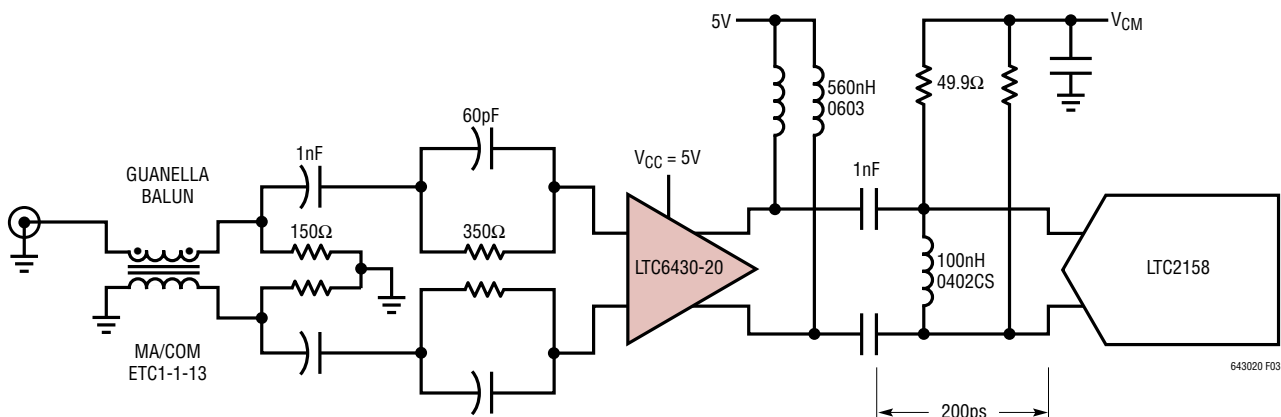

Figure 3. Wideband ADC Driver, LTC6430-20 Directly Driving the LTC2158 ADC
1.25GHz of input bandwidth in an undersampling application. Typically, a filter is used between the ADC driver amplifier and ADC input to minimize the noise contribution from the amplifier. However, with the typical SNR of higher sample rate ADCs, the LTC6430-20 can drive them without any intervening filter, and with very little penalty in SNR. This system approach has the added benefit of allowing over two octaves of usable frequency range. The LTC6430-20 driving the LTC2158, as shown in the circuit of Figure 3, the bandwidth is limited only by the 1.25GHz input BW of the ADC, still produces 57dB SNR, and offers IM performance that varies little from 240MHz to 1GHz. At the lower end of this frequency range, the IM contribution of the ADC and amplifier are comparable, and the third-order IM products may be additive, or may see cancelation.